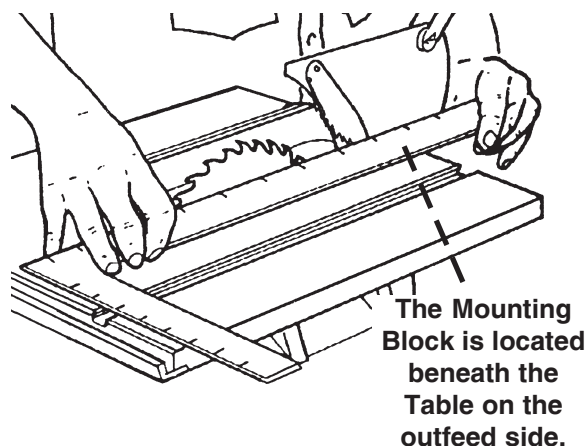

Figure 100
3. Raise the Upper Guard and lay a Straight-edge on the Worktable so that it touches the Blade and the Splitter, as demonstrated in Figure 100.